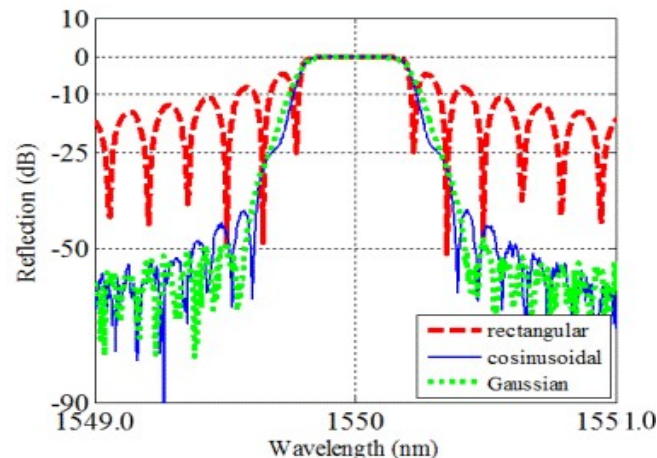
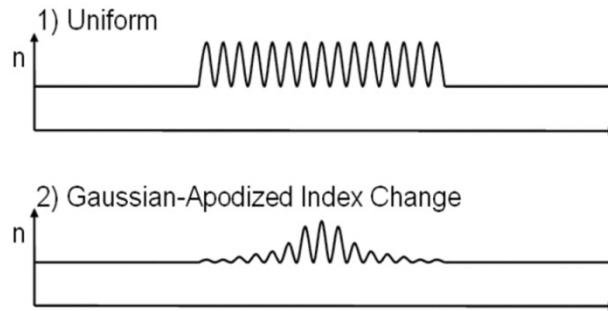

Figure 7: FBG reflection spectrum for different types of apodization
Figure 8: Refractive index profile with and without apodization
Apodization required because of "Gibbs phenomenon". Sharp changes in index profile results in ripples in spectral domain or larger 'side-lobes' in reflection spectrum. Apodization means grating is weaker in both ends, see fig. 7 and fig. 8. Apodization is practically achieved by shaping the laser beam, such that transverse intensity profile of the laser beam is slowly varying.
- i. Required spectral band of chirped FBG need to be within the spectral band of phase-mask, see fig. 7. In other words: